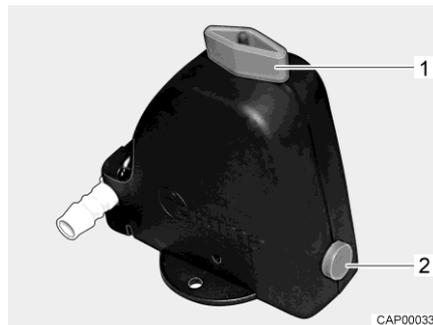

Fig. 279 Safety/drainage valve (Truma)
- Open the safety/drainage valve (Truma). To do this turn the knob (Fig. 279,1) parallel to the safety/drainage valve. The push button (Fig. 279,2) jumps out.